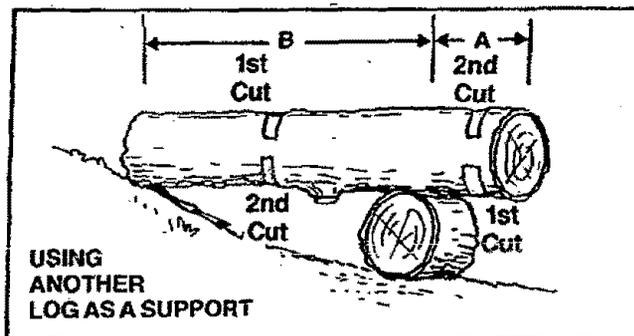

Figure 30
4. BUCKING — USING ANOTHER LOG AS A SUPPORT (Figure 30):